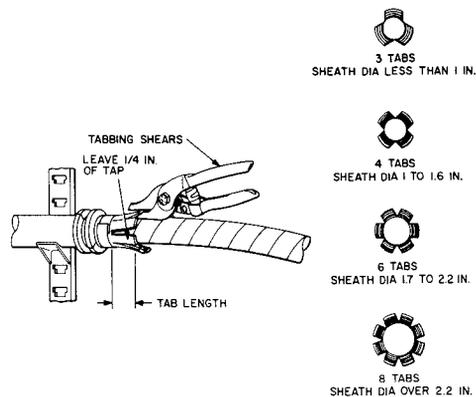

Fig. 13—Cutting Tabs
3.08 **Warning:** On alpeith or stalpeith cables, the cuts should be made through the polyethylene and metal layers. To avoid damaging the core, it is desirable to tab the polyethylene jacket first and then tab the underlying metal. On plain lead sheath, care must be exercised to avoid damaging the core. Carefully bend the tabs away from the core and remove any metal burrs or slivers. Cut the required number of tabs for each cable end through the sheath to the edge of the tape as shown in Fig. 13. The cuts should be made to make the resulting tabs